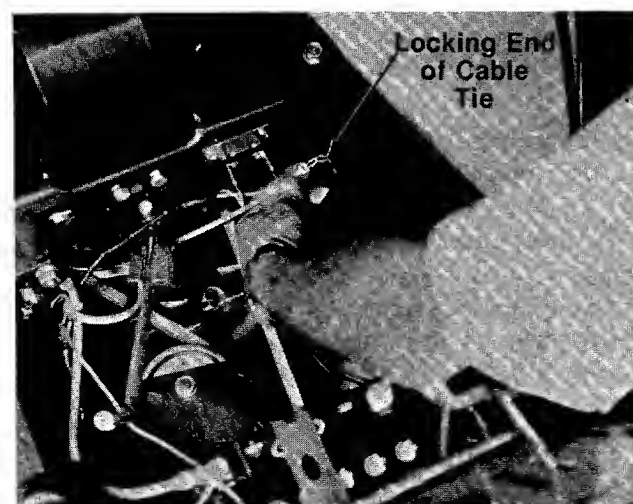

FIGURE 12.
9. Attach the battery drain tube to the manifold of the battery, on the left hand side. Push the locking end of cable tie (J) through the hole in the left frame as shown in figure 12. Route the battery drain tube back to the cable tie. Place end of cable tie through the slot so a loop is formed around the drain tube to secure it. Tighten cable tie and cut off excess end.